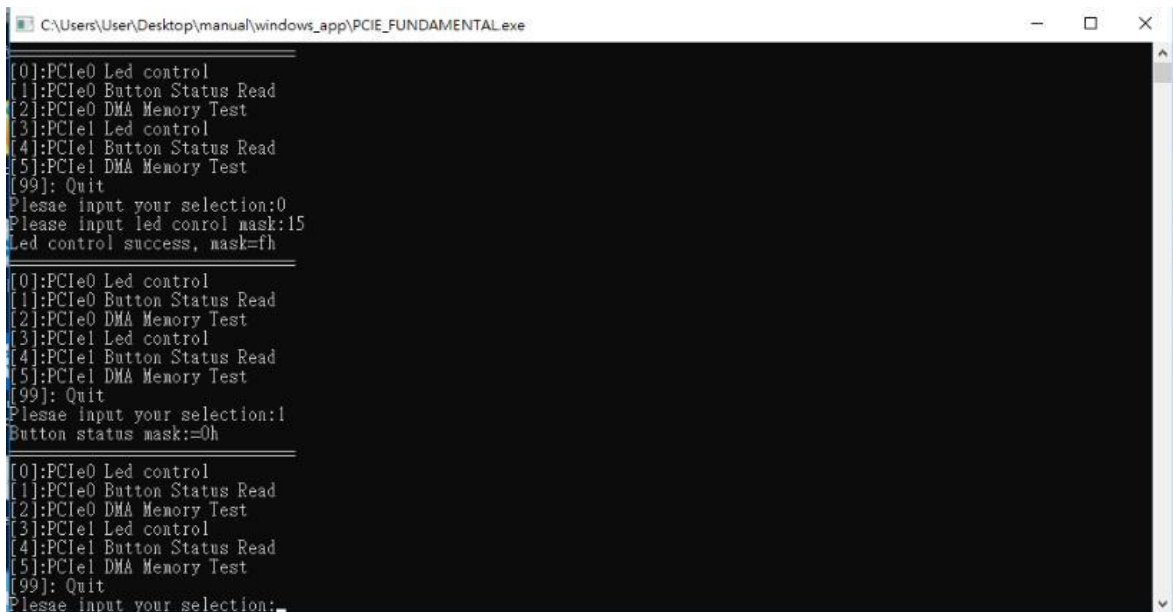

Figure 6-28 Screenshot of PCIe0 Button Status Report
- Type 1 followed by an ENTER key to select **PCIe0 Button Status Read** item. The button status will be report as shown in **Figure 6-28**.